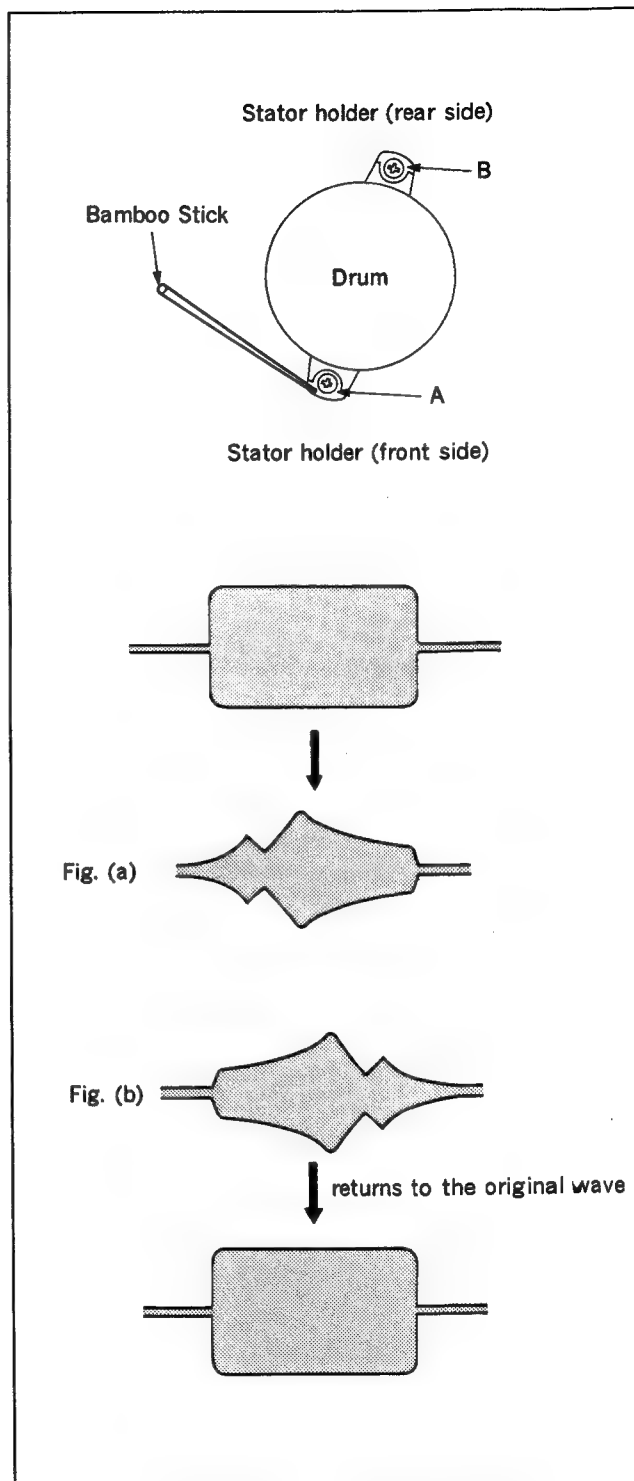

Fig. 6-1-1 Checking the unstable head-to-drum contact
- 3) Observe wave shape. Remove bamboo stick when wave shape becomes figure (a) of Fig.6-1-1. Check to see that wave shape returns to the original wave shape as the bamboo stick is removed.
- 6) Observe wave shape. Remove bamboo stick when wave shape becomes figure (b) of Fig.6-1-1. Check to see that wave shape returns to the original wave shape as the bamboo stick is removed.